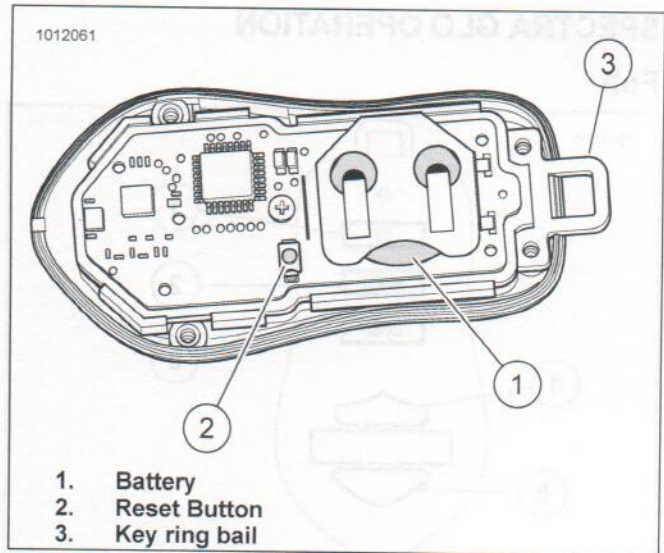

Figure 5. Fob Reset and Battery
Refer to Figure 5. The key ring bail (3) can fall when cover is removed. Use care not to lose it.
1. Refer to Figure 5. Remove four screws securing the back cover of fob. Remove cover.
5. Press and hold button (2) until Spectra Glo lights on vehicle cycle through all seven color zones.
2. Refer to Figure 5. Press and hold button (2) until Spectra Glo lights on vehicle cycle through all seven color zones. Continue to hold an extra 5 seconds until Spectra Glo lights cycle through all seven color zones a second time.
1. Refer to Figure 5. Remove four screws hold on back cover of fob. Remove cover.
2. Remove battery (1) by pushing battery out of retainer.